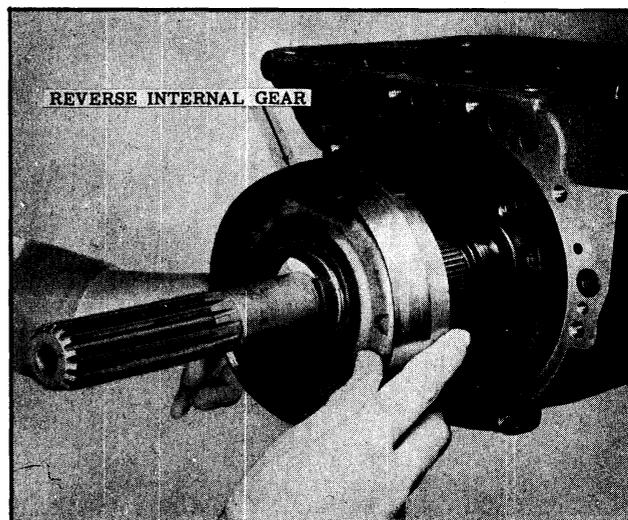

Fig. 3-134 Installing Reverse Internal Gear.
7. Install the reverse internal gear by turning to engage planet pinions. (See Fig. 3-134)